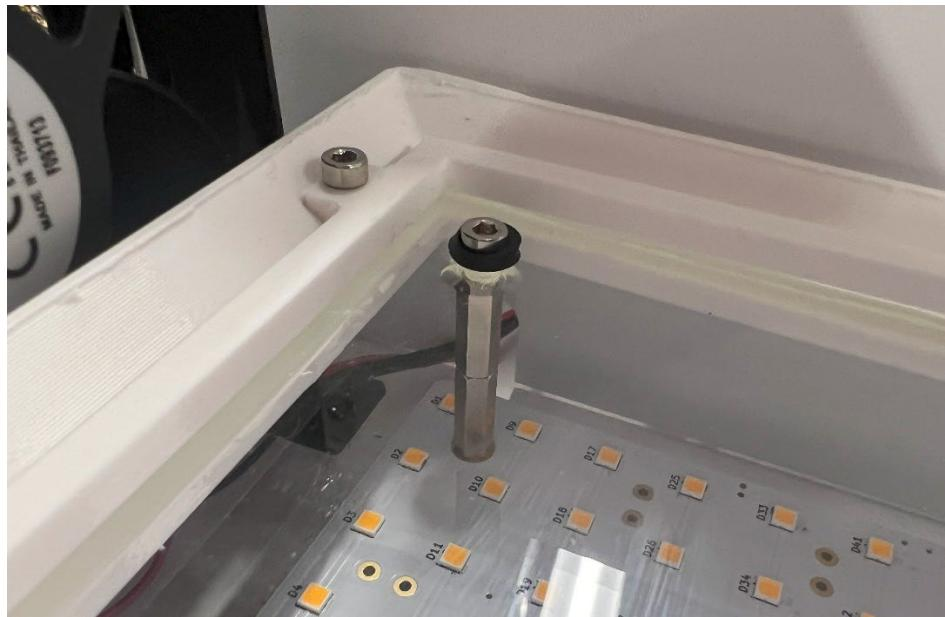

Figure 28: Mounting of the sample stage using rubber washers
6. Lower the stage assembly onto the standoffs inside the lower photobleacher housing. Secure in place with 4x M3x10 bolts. Use an M3 rubber sealing washer (like McMaster P/N 99604A141) to seal the bolt head against the glass. See Figure 28 for reference.